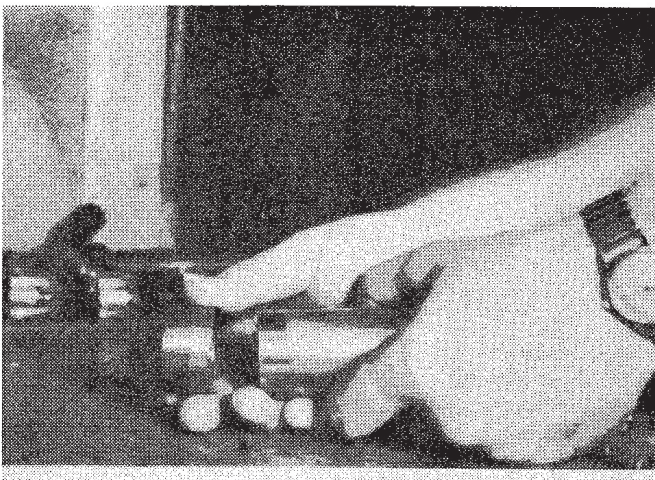
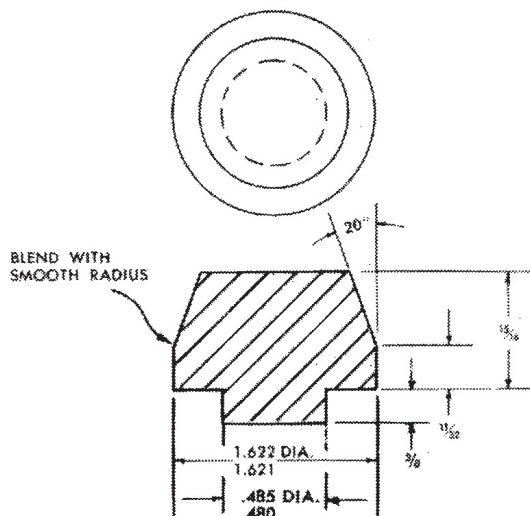

Fig. 6
Fig. 7
a block of wood. The seals should be pressed in (27) as shown in cutaway pump view. When returning crossheads through new seals care should be taken not to turn back or damage the lip of the seal. An assembly thimble can be very helpful in this operation. Fig. 6 illustrates an assembly thimble being placed on the end of the crosshead. Fig. 7 shows a recommended thimble for installation of oil seals.